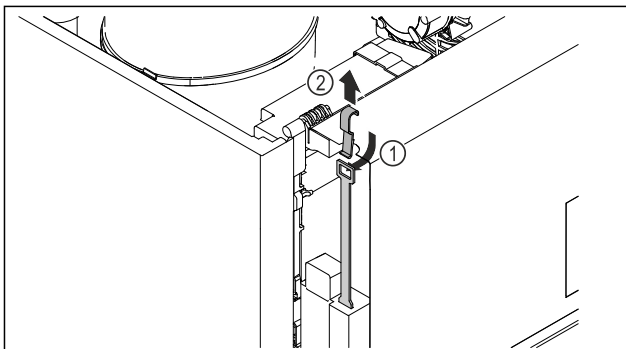

Fig. 207
- ▶ Push the emergency release key Fig. 207 (1) in from the top, hook it into the lock, and pull up Fig. 207 (2).